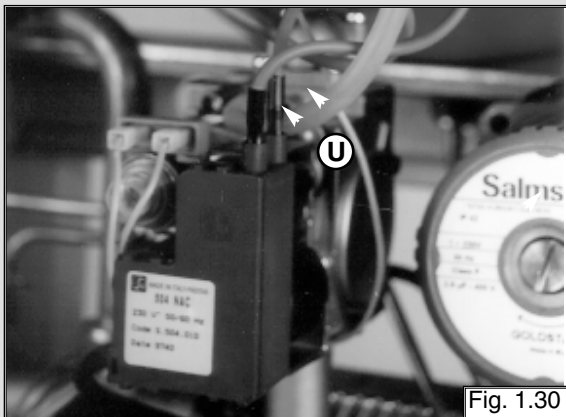

Fig. 1.30
1. Disconnect ignition leads “U” by pulling upwards (see fig. 1.30);